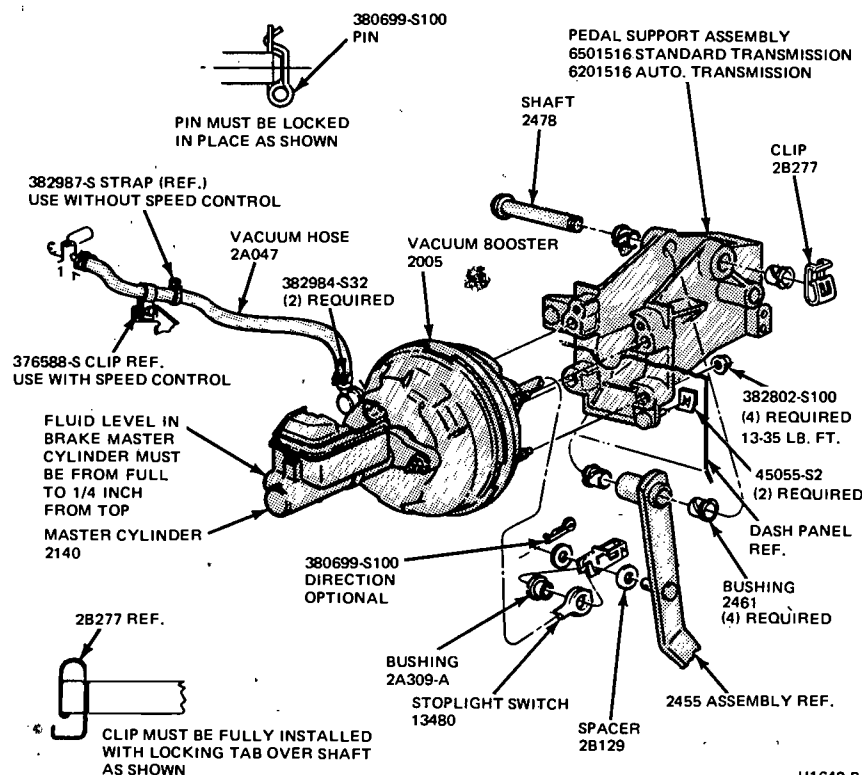

FIG. 15 Master Cylinder and Brake Pedal Installation—Power Brake—Ford, Mercury and Meteor
1. Remove the brake tubes from the primary and secondary outlet ports of the master cylinder (Figs. 15 thru 17).
2. Position the master cylinder assembly over the booster push rod and onto the two studs on the booster assembly (Figs. 15 thru 17).
enough for the switch outer hole to clear the pin, and then remove the switch from the pin. Be careful not to damage the switch during removal. Slide the booster push rod and the nylon washers and bushing off the brake pedal pin (Figs. 15 thru 17).
4. Remove the booster-to-dash panel attaching nuts or bolts (Figs. 15 thru 17). Remove the booster and bracket assembly from the dash panel, sliding the push rod link out from the engine side of the dash panel.
1. Mount the booster and bracket assembly to the dash panel by inserting the push rod or push rod link in through the hole and boot in the dash panel. Install the bracket-to-dash panel attaching lock nuts (Figs. 15 thru 17).
Install the inner nylon washer, the booster push rod, and the bushing on the brake pedal pin. Position the switch so that it straddles the push rod with the switch slot on the pedal pin and the switch outer hole just clearing the pin. Slide the switch completely onto the pin, and install the nylon washer as shown in Figs. 15 thru 17. Be careful not to bend or deform the switch. Secure these parts to the pin with the hairpin retainer. Connect the stop light switch wires to the connector, and install the wires in the retaining clip.